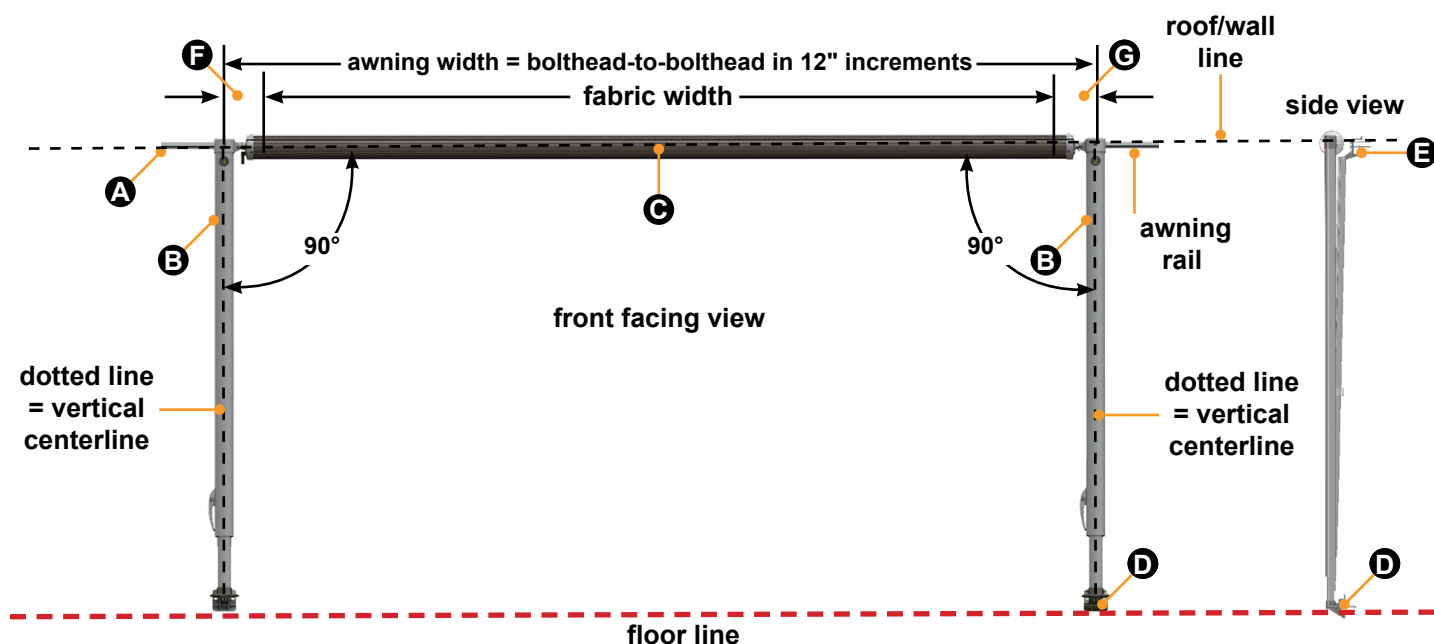

Fig.1
A. Sidewall Mounting - Position the awning rail along the line where roof and wall meet, or a minimum of 4" above doors or windows (Fig.1).
NOTE: The awning rail must be level and parallel with the floor line of the unit (Fig.1).
4. Measure and confirm the width of the awning. The distance is measured from centerline of support arm assembly to the opposite centerline of the other support arm assembly (Fig.1).
2. Using a non-permanent method of marking, mark a perpendicular line from the mark on the awning rail down to the floor line. This is the centerline of the support arm assembly (Fig.1). Do this for both support arm assemblies.
2. Make sure the roll tube centerline is level with or slightly higher than the awning rail centerline (Fig.1). The bottom of the roll tube **MUST** not be higher than the awning rail.